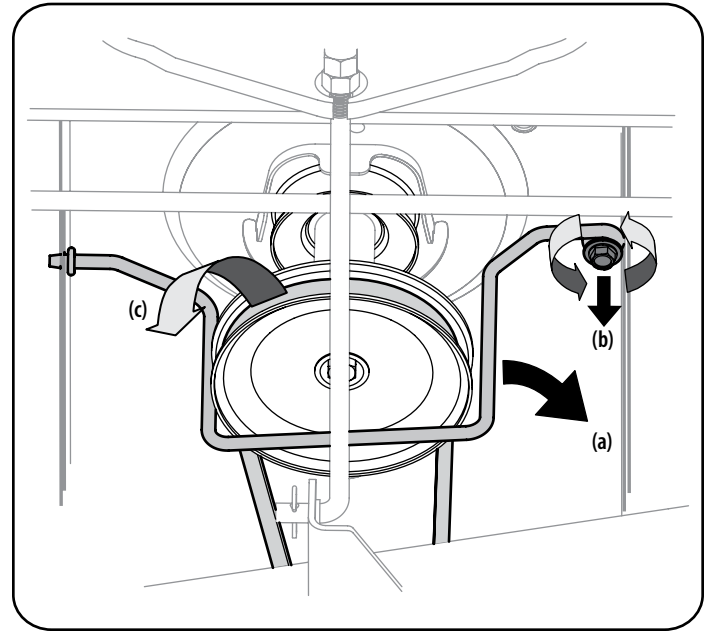

Figure 23
3. Remove the belt-keeper rod (a), from around the tractor's engine pulley, by removing the self-tapping screw (b) that secures it. See Figure 23.
4. Remove the belt (c) from around the tractor's engine pulley and idler pulley(s). See Figure 23.